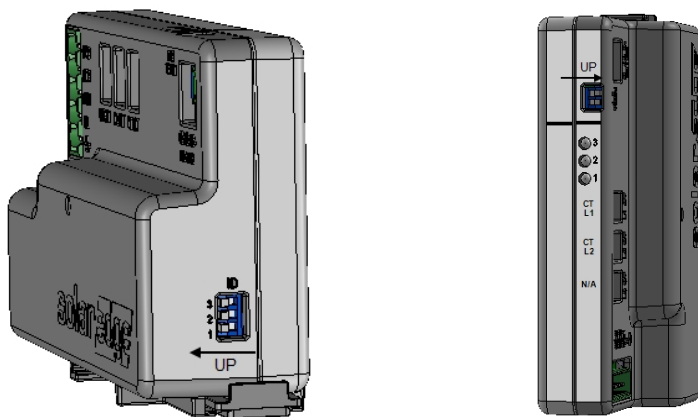

Figure 29: ID and termination DIP switches
7. In the meter, ensure the RS485-1 DIP switch is down. See *Figure 29*.